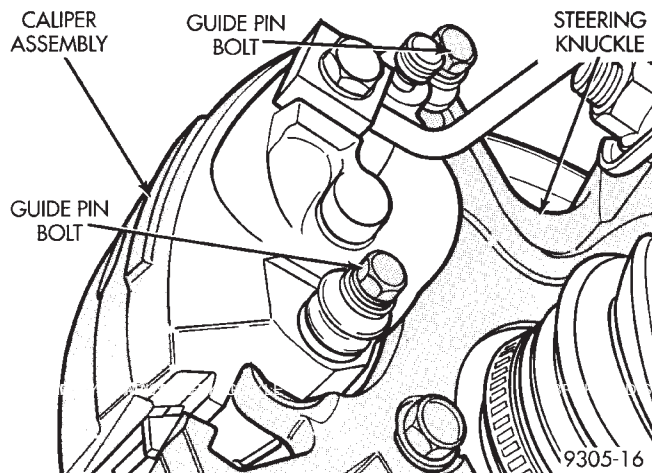

Fig. 42 Removing Caliper Assembly Guide Pin Bolts
(1) Raise vehicle on jackstands or centered on a hoist. See Hoisting in the Lubrication and Maintenance section of this manual.
(2) Remove front wheel and tire assemblies from vehicle.
(3) Remove the 2 caliper assembly to steering knuckle guide pin bolts (Fig. 42).